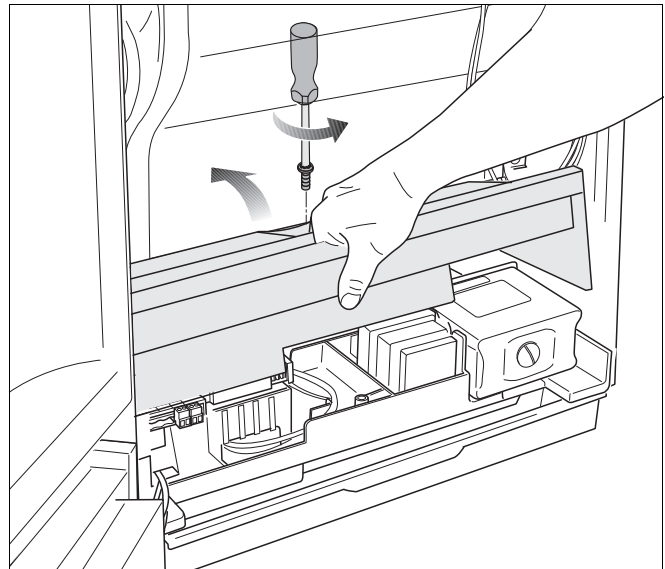

fig. 19 Pulling the cover over the electrical connections up
- Undo 1 screw to release the cover over the electrical connections and pull the cover up (fig. 19).